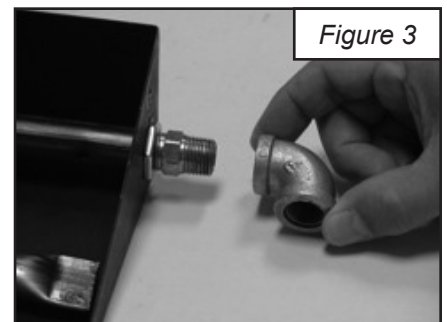

Figure 3
- C. Connect a 3/8" female elbow (Part #19) to the Natural Gas Orifice. (See Figure 3)